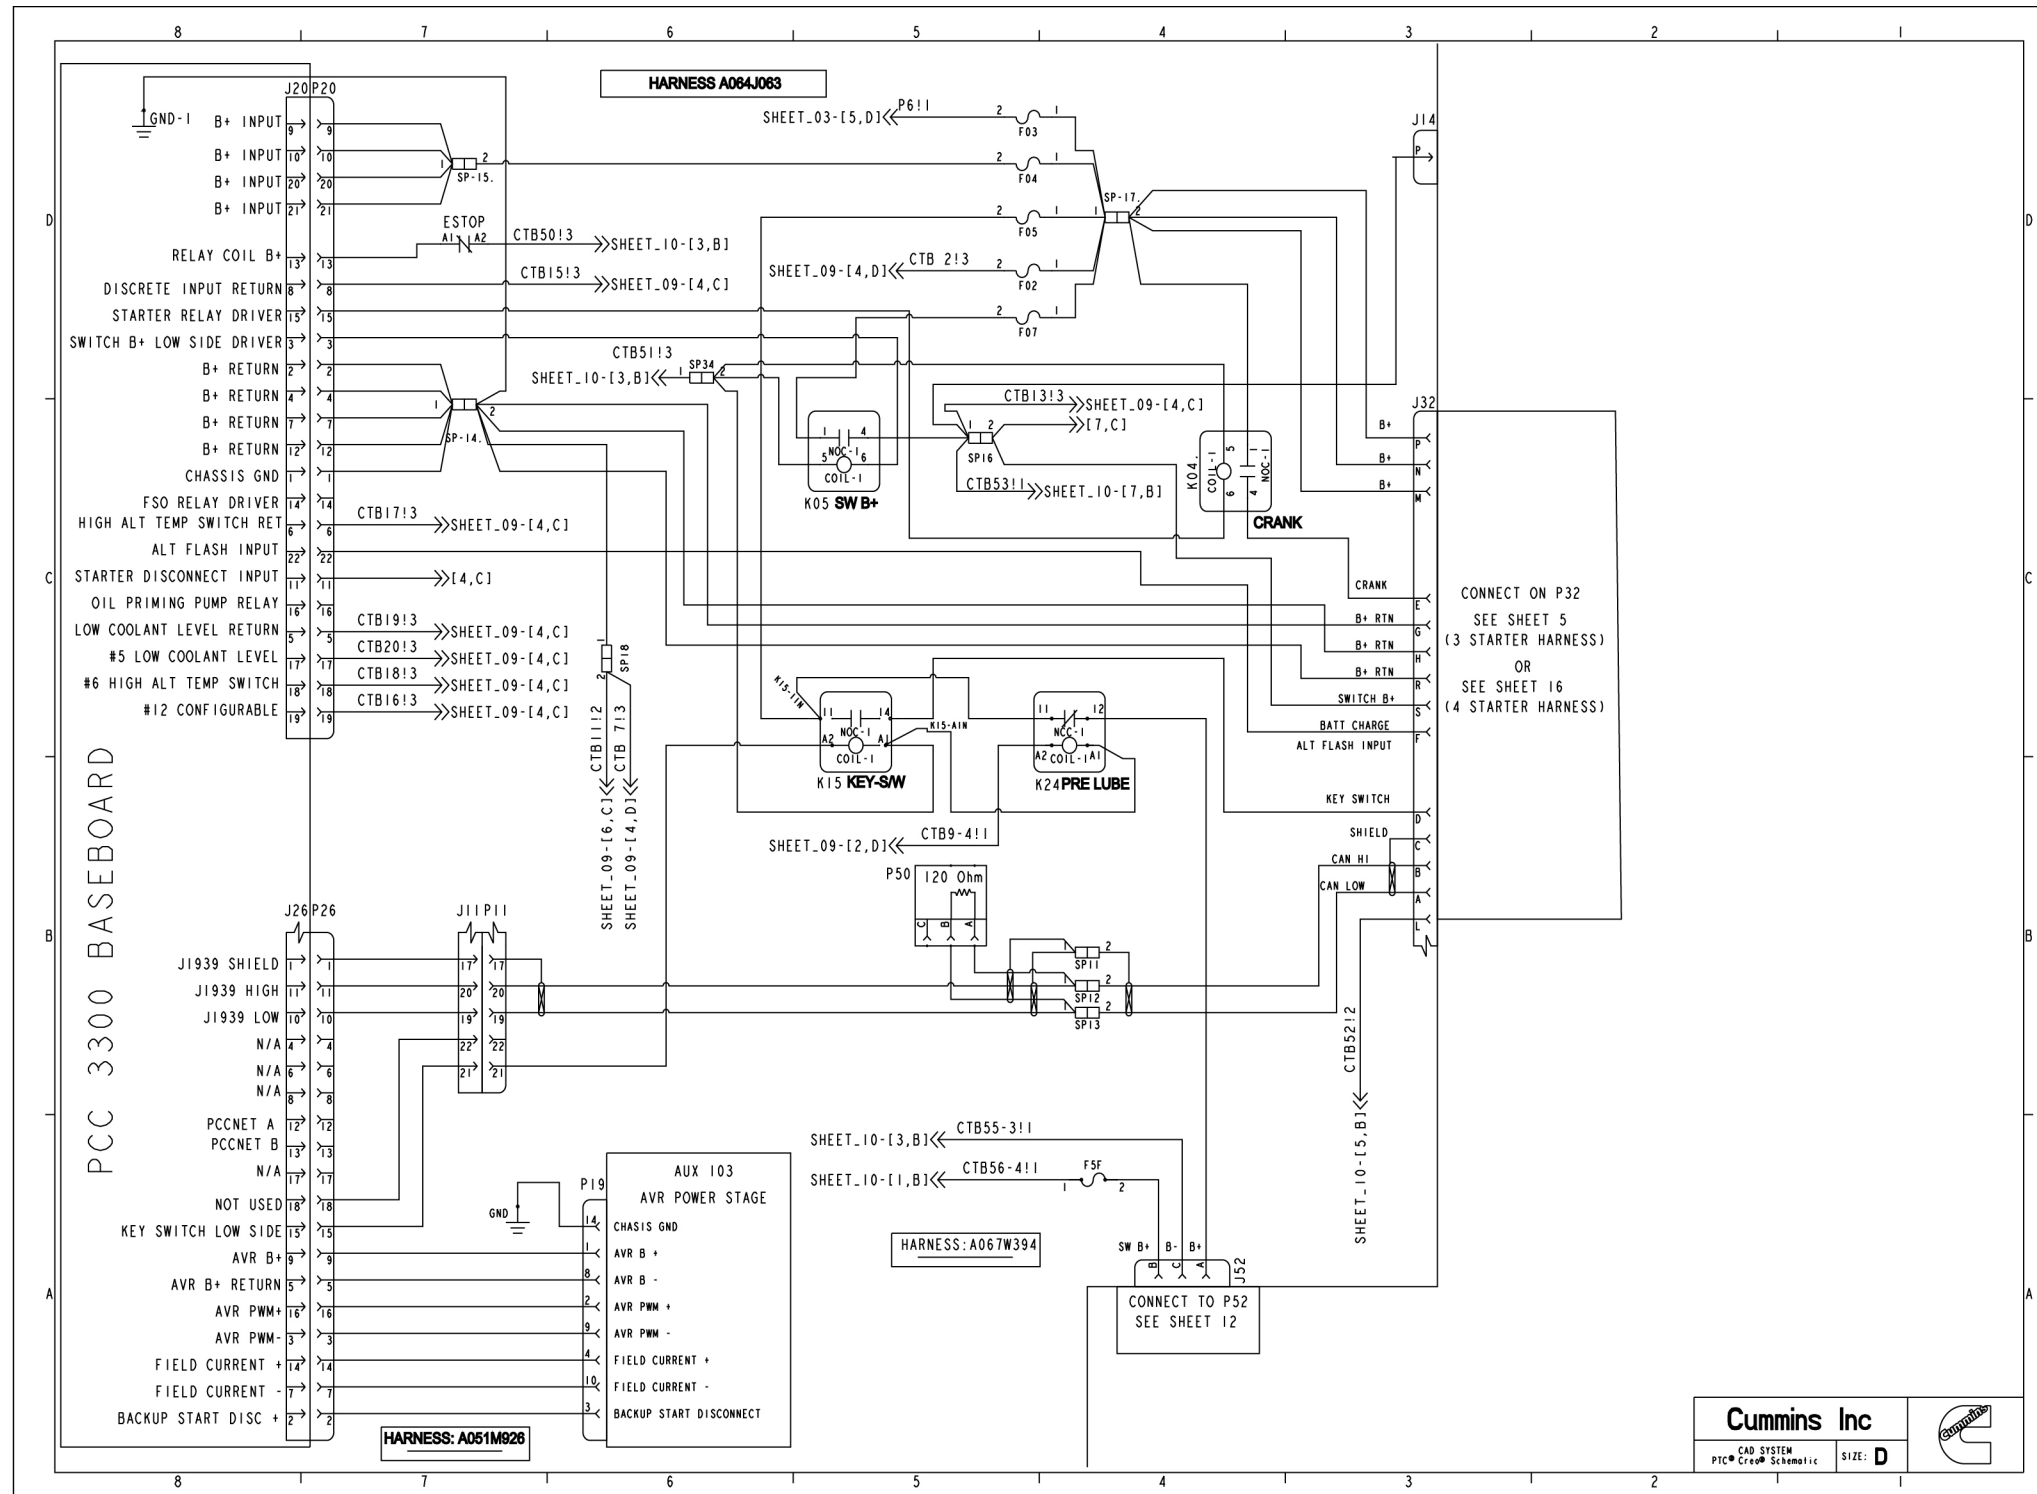

FIGURE 88. WIRING SCHEMATIC (SHEET 4)
- Figure 88. Wiring Schematic (Sheet 4) 392